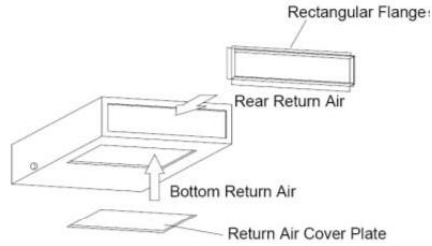

Fig. 4.35
1. The default installation location of the rectangular flange is at the back and the return air cover plate is at the bottom, as shown in Fig. 4.35 .